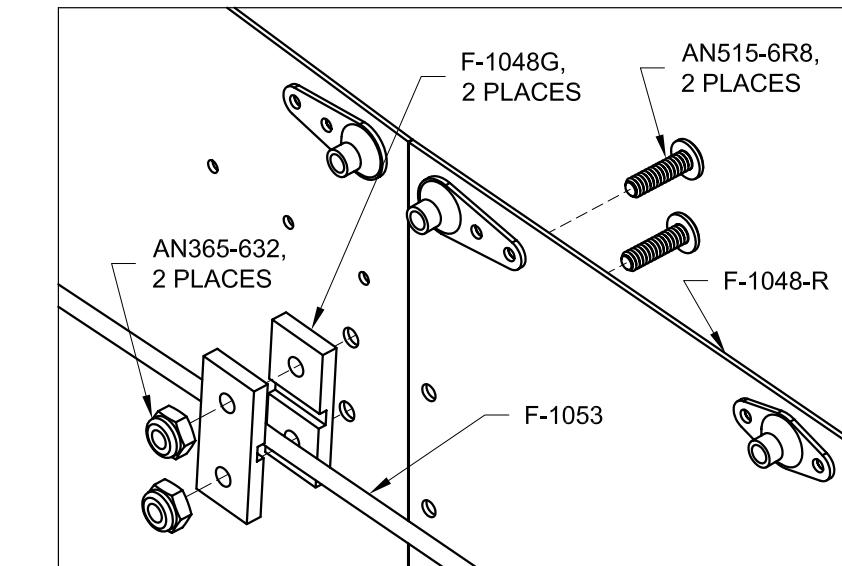

FIGURE 5: INSTALLING THE RUDDER CABLE GUIDES
Step 4: Assemble both F-1048G Rudder Cable Guides to the F-1048-R Fwd Fuselage Rib as shown in Figure 5 using the hole match-drilled in Step 2 (place the side with the centerline drawn in Step 2 against the fwd fuselage rib). Align the centerline with the center of the remaining hole in the fwd fuselage rib then match-drill #27 this hole into both rudder cable guides.
Step 6: Place the F-1053 Rudder Cable in the slot in-between the F-1048G Rudder Cable Guides and install the guides to the F-1048-R Fwd Fuselage Rib using the hardware called out in Figure 5.